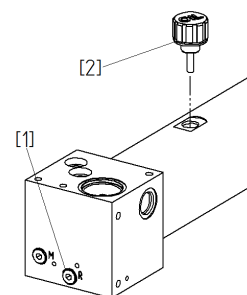

Fig. 3
- Open the screw (1) and drain the oil
- Close the crew (1)
- Fill in oil up to the mark at the oil dipstick (2), [17] (refer to Fig. 3)